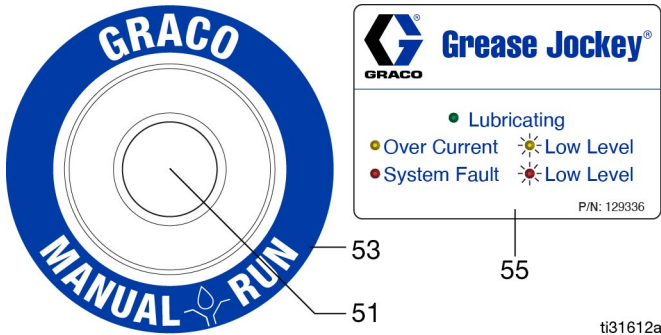

FIG. 20
- Clean the surface around the outer edge of the push button (51). Position label (53) around the button and adhere label (FIG. 20).